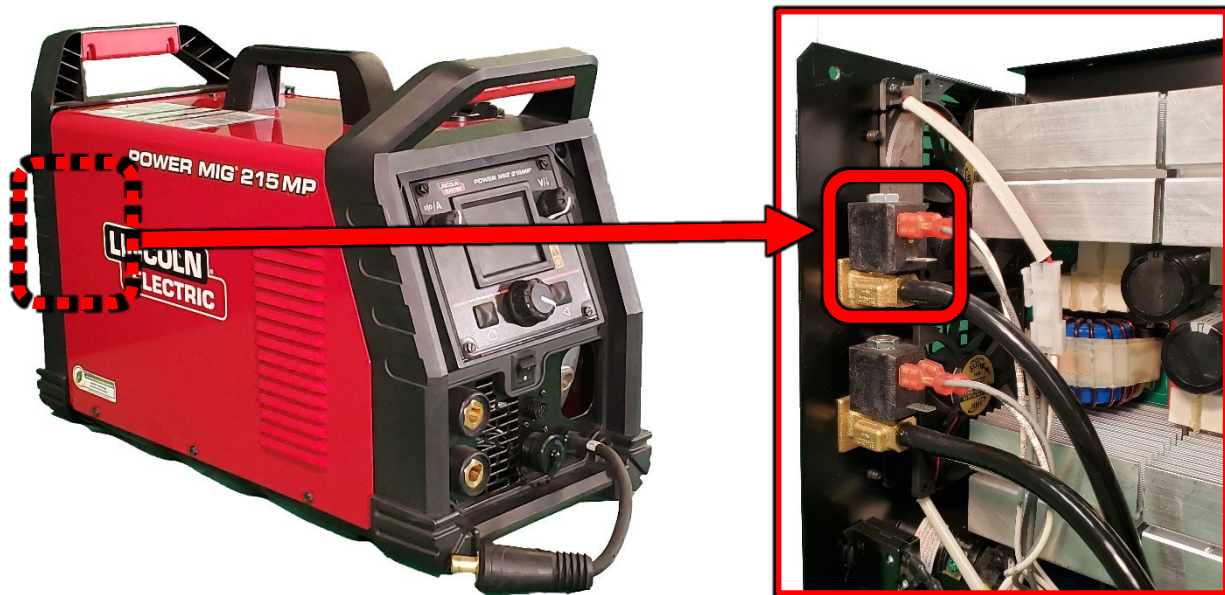

Figure F.1
1. For location of the MIG Solenoid refer to Figure F.1.